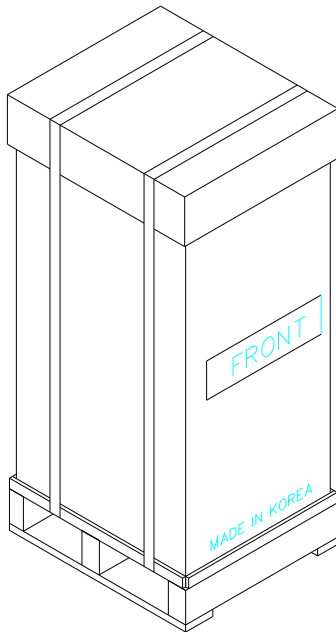

Fig. 4.3
- 2) Cut the straps that are fastened around the box with a knife. (refer to Fig. 4.3)